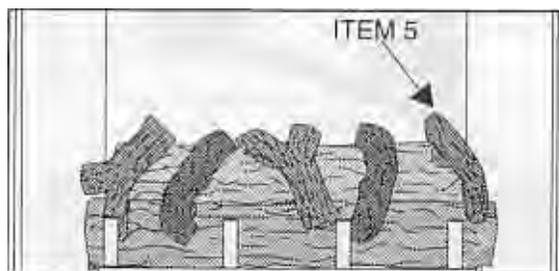

Figure 37
8. See Figure 37. The last Log to place is the small "hooked" log (Item 5). Place the longer end on the right hand indentation of the Back Log. The shorter portion of the small "hooked" log is positioned on the right hand indentation of the Front Log.